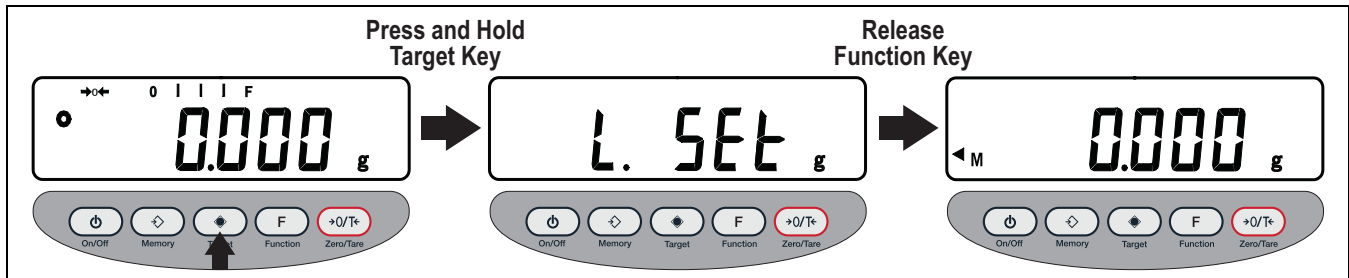

Figure 7-5. Enter Lower-Limit Setting
1. Press and hold **F** until **Func** displays, then release the key. The function setup mode is activated and the first parameter, **1. b.G. 1** displays (see Figure 7-5 on page 21).